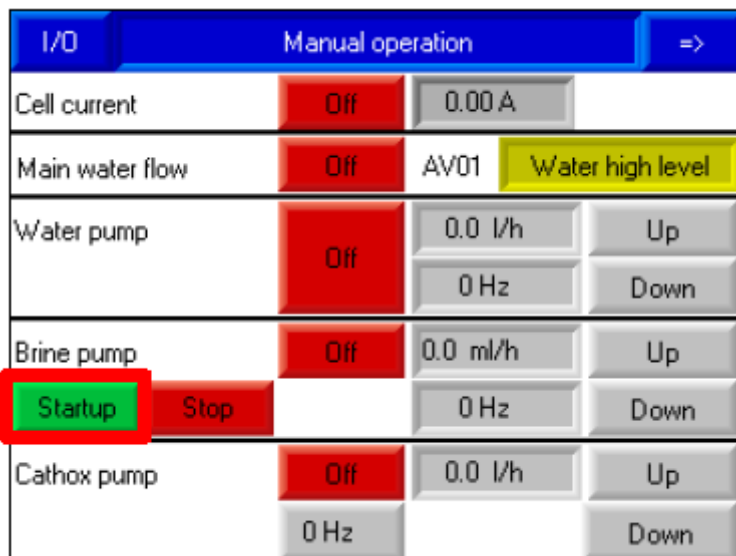

Figure 68 - Startup button for Brine pump
- See process defined in Figure 68.